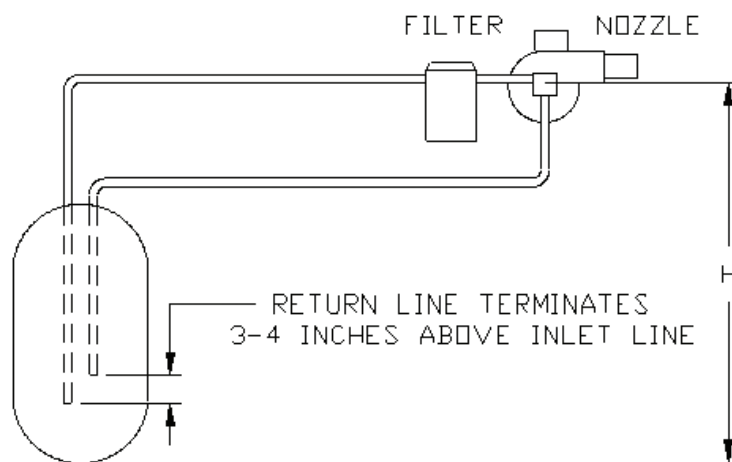

FIGURE 9.3: TWO-PIPE LIFT SYSTEM
- d) TWO-PIPE LIFT SYSTEM - Used when a fuel oil storage tank is located below an oil burner fuel pump suction port. See Figure 9.3. The vertical distance from bottom of the tank to center line of the pump (Dimension 'H') must not exceed that shown in the pump manufacturer's instructions. The maximum permissible distance 'H' allowed is reduced by the number of fittings, filters and valves installed in the line.